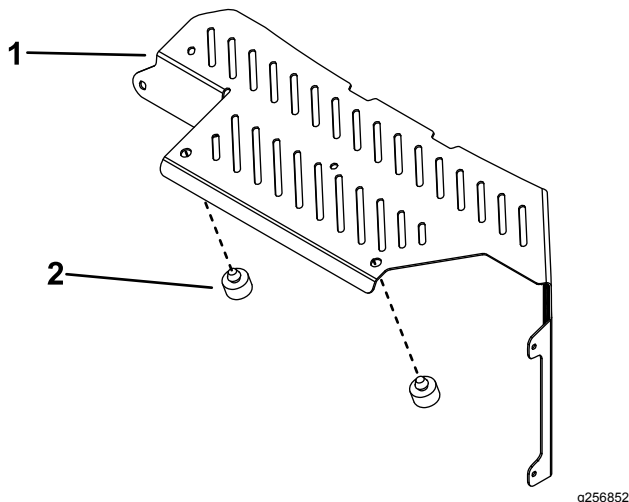

Figure 8
2. Install the 2 bumpers on the heat shield (Figure 8).